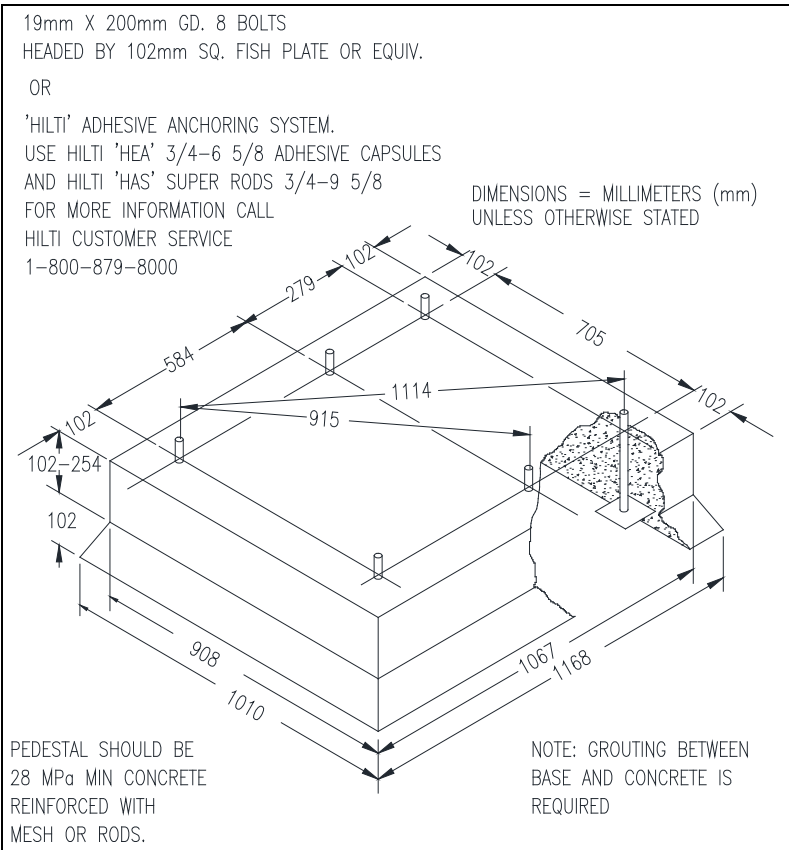
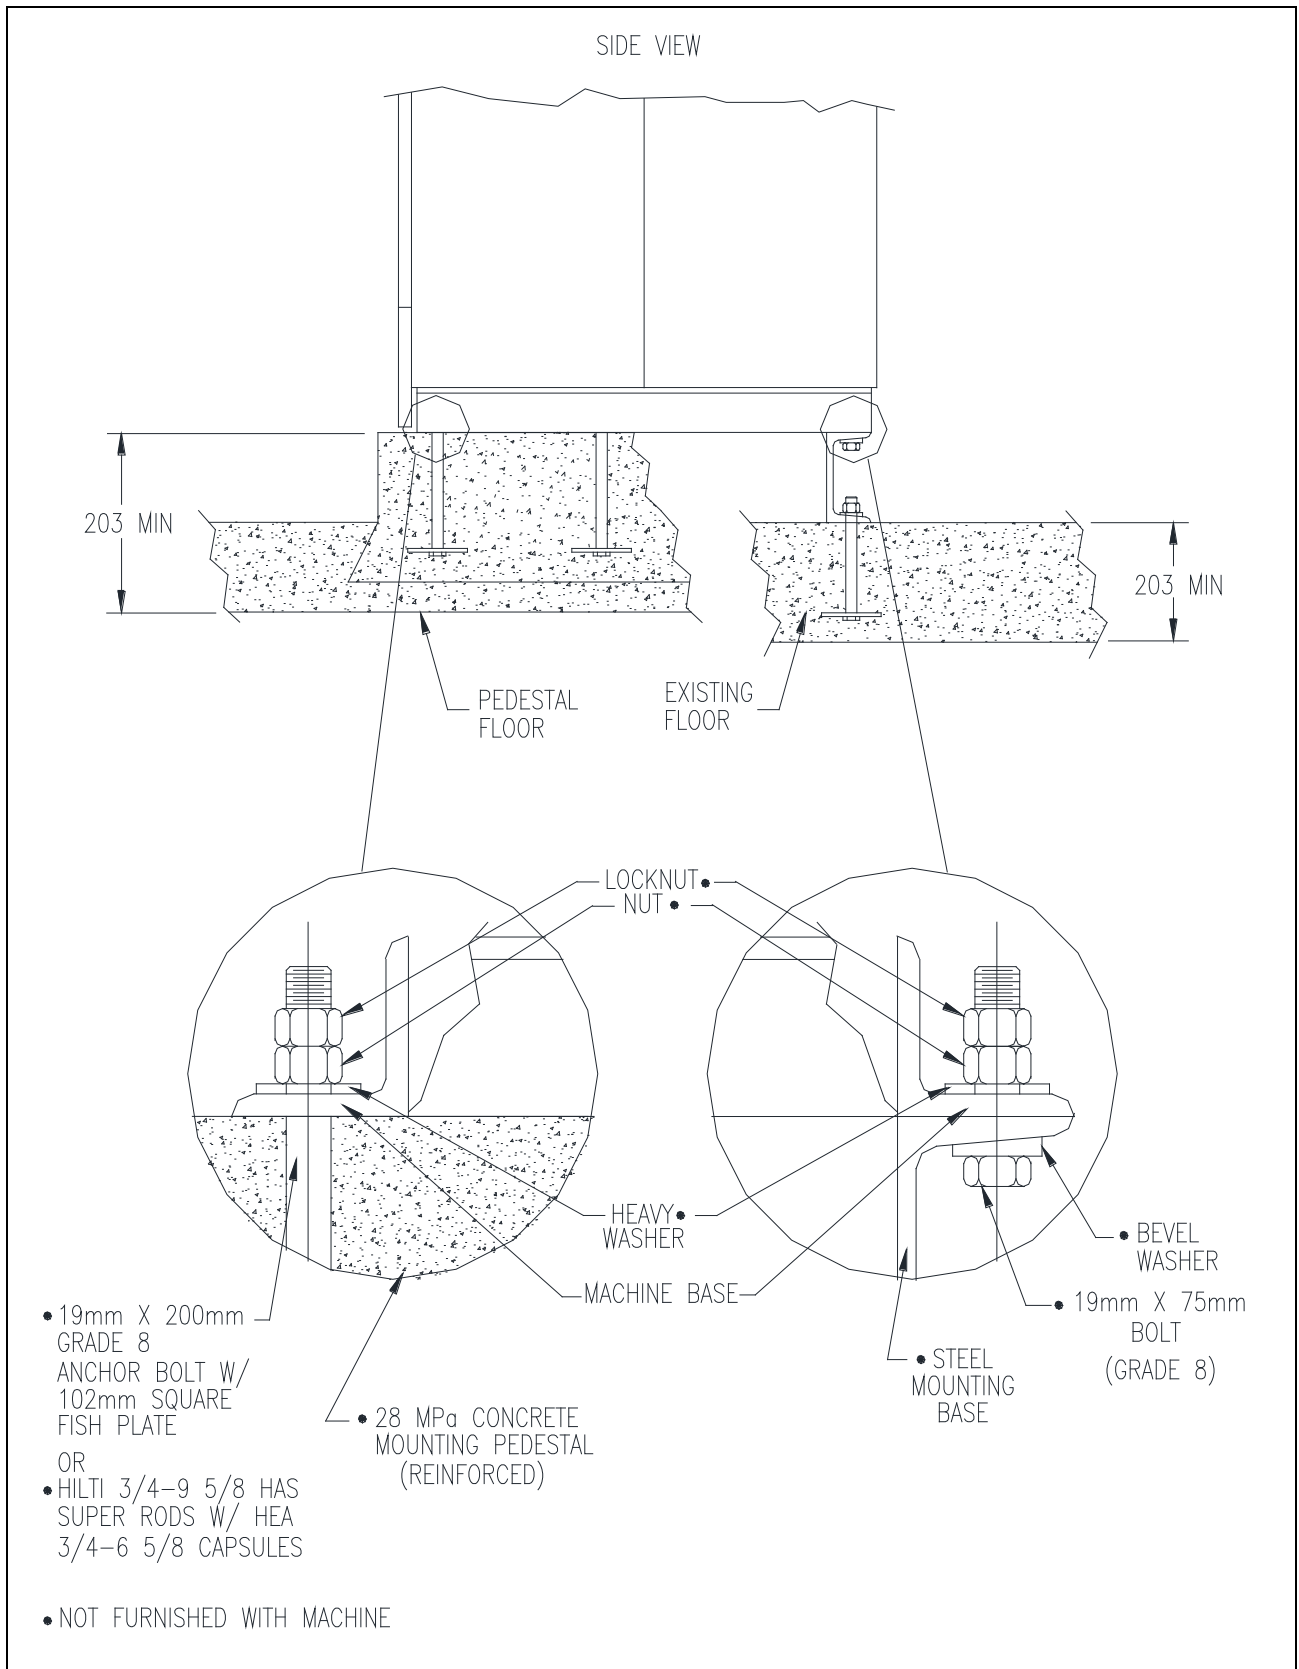
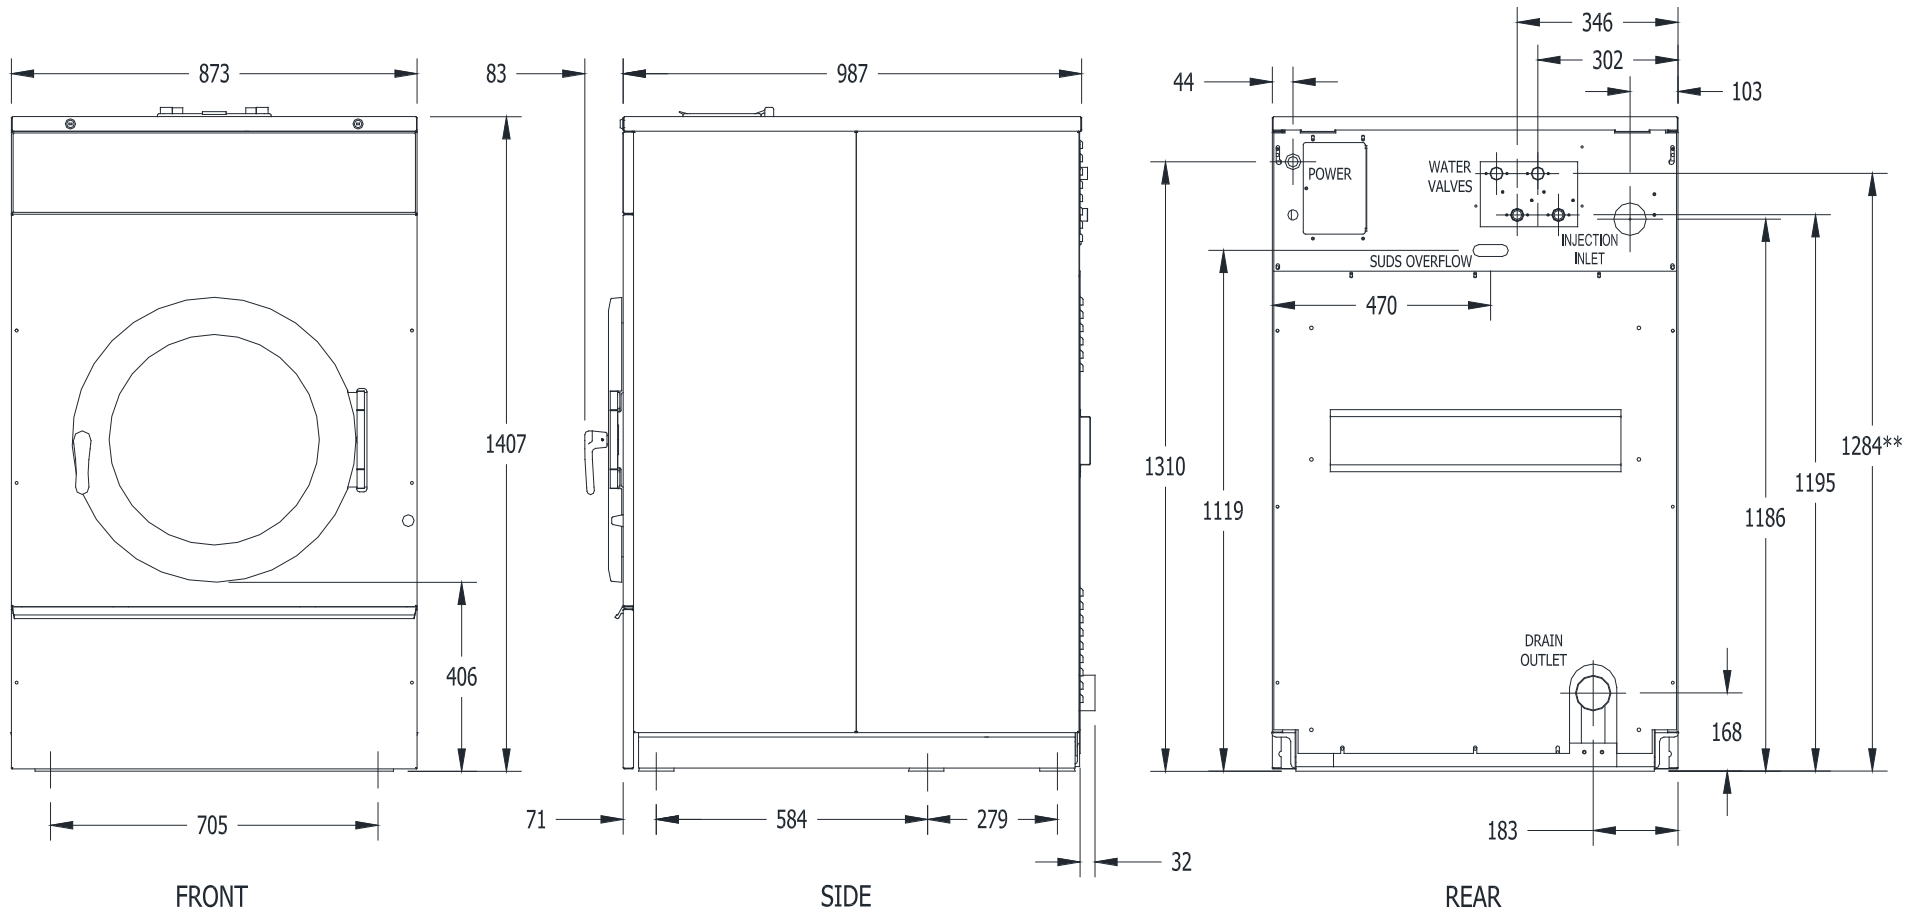

Figure 1-1: Concrete Pedestal Mounting (metric)
Figure 1-3: Machine Mounting Detail (metric)
Figure 1-4: T-900/950 Industrial Washer Mounting Diagram
Refer to Figure 1-1 and Figure 1-3 for recommended concrete pedestal dimensions. Refer to Figure 1-4 for overall machine mounting dimensions.
**NOTE: Top water valves shown in Figure 1-4 are only on T-950 model.